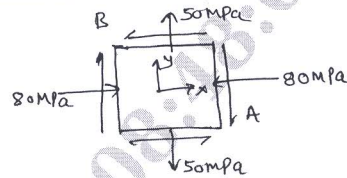

Fig.Q.3(b)
- b. Draw the Mohr's circle of the stress element shown below in Fig.Q.3(b). Determine the principle stresses and the maximum shear stresses. (14 Marks)